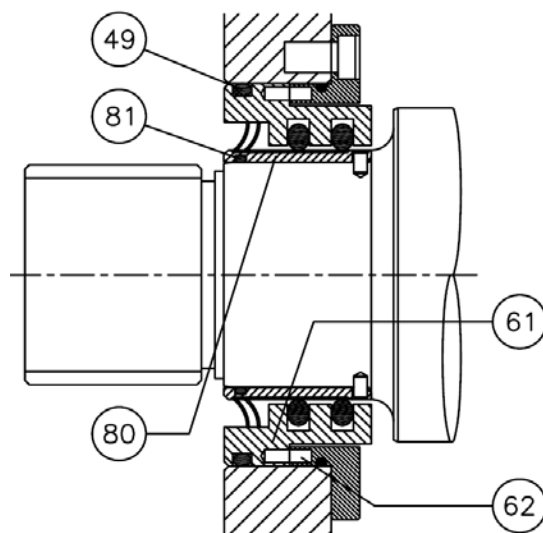
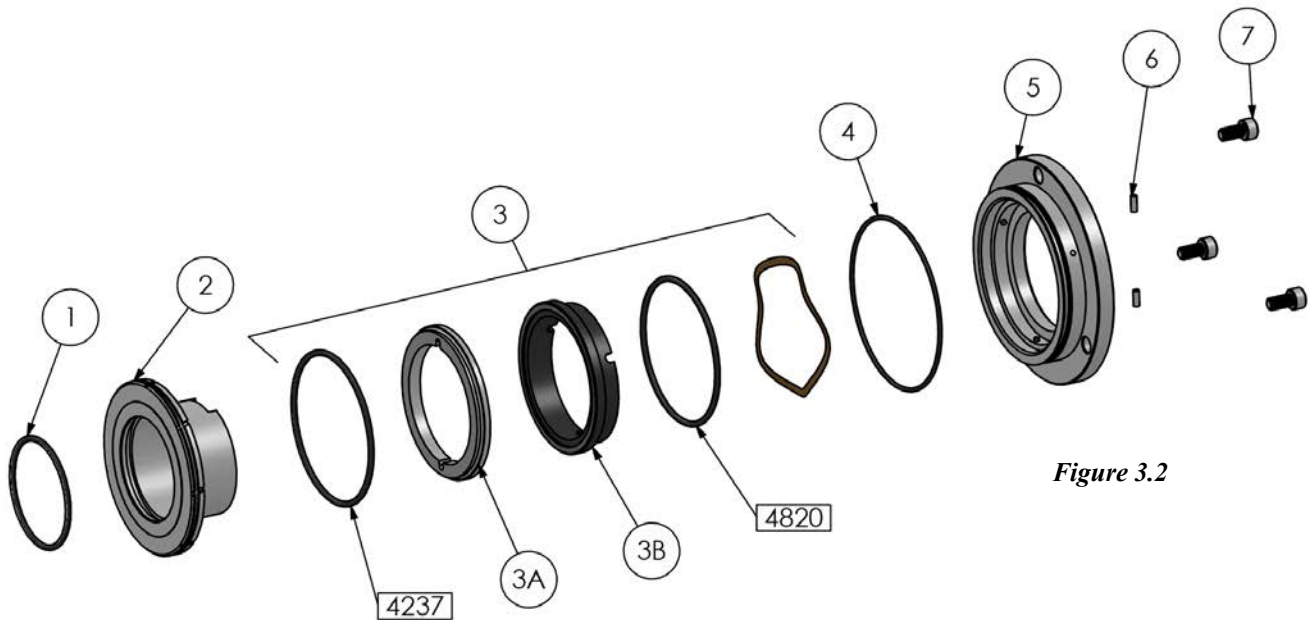

Figure 3.1
Figure 3.2
Remove shaft o-ring (item 27, Fig. 3.1) located behind the shaft splines. Use two long flat head screwdrivers 180° apart to pry the shaft sleeve/rotary seal holder (item 2, Fig. 3.2). Use razor blade or sharp flat head screwdriver to remove rotary seal face (item 3A, Fig. 3.2) from sleeve/rotary seal holder. Use two long flat head screwdrivers 180° apart to remove stationary seal holder (item 5, Fig. 3.2) along with stationary seal face (item 3B, Fig.3.2).
3.2.2 Single Mechanical™ Seal Installation ref. Figure 3.2